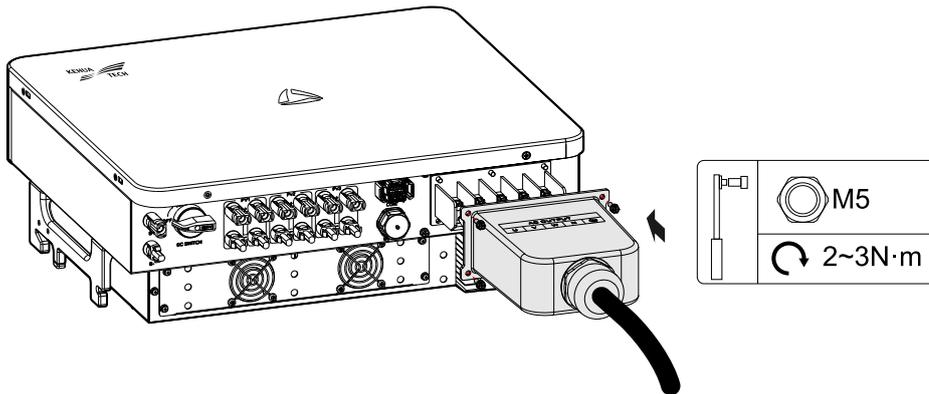

Figure3-27 Fasten the AC output waterproof cover
- Step 3 After wiring, fasten the AC output waterproof cover to the inverter by equipped four stainless steel combination bolt M5\*12 and then fasten the external AC output nut, as shown in Figure3-27.